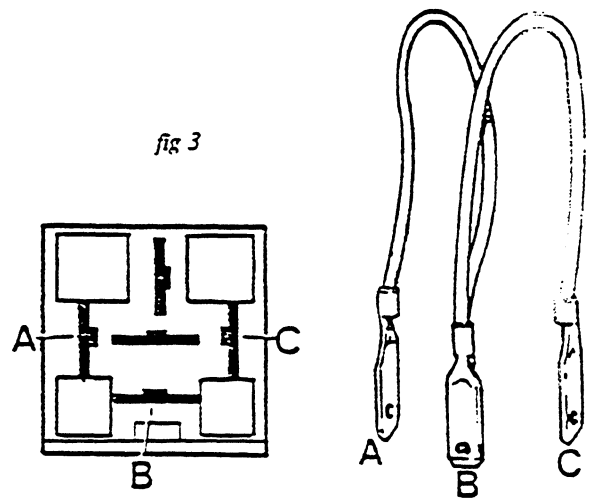

fig 3
- 3) Firmly install the link wire assembly into the appropriate cavities of the fan fail module plug of the relay panel as indicated in Figure 3.